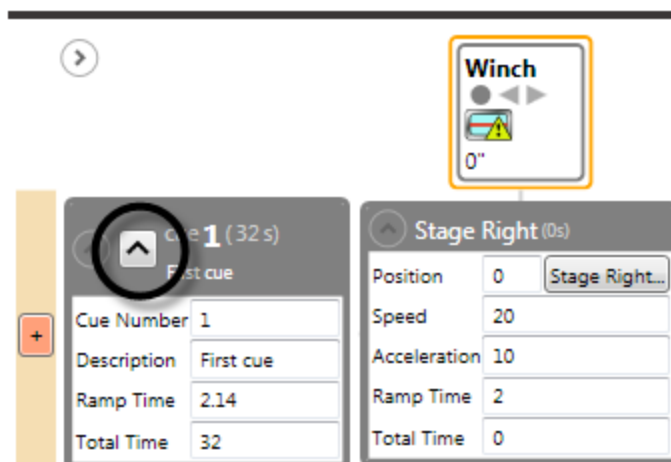

Figure 320
1. Click the **Load Cue** button in the **Cue Grid** (Figure 320).